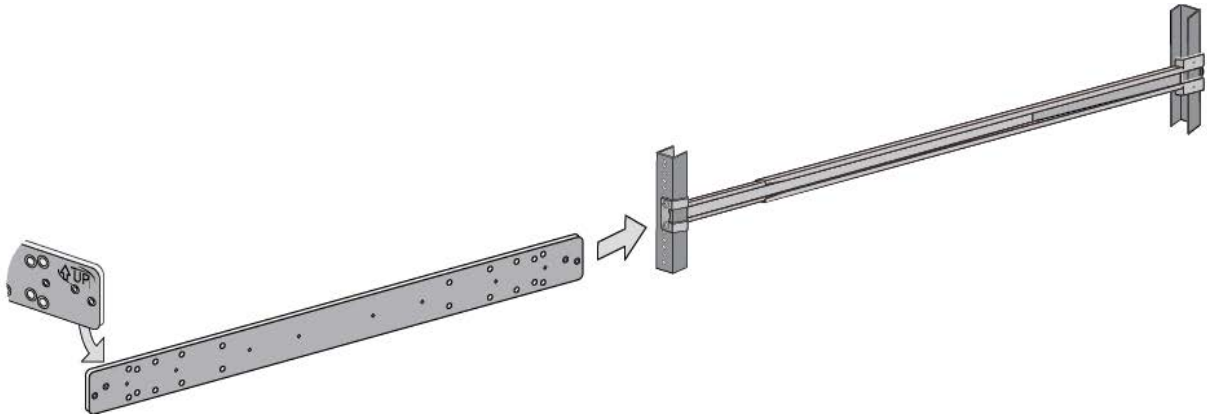

Figure 109. Inserting an Inner Rail into an Outer Rail
1. Slide one of the inner rails into an outer rail. Be sure that the UP arrow on the inner rail is pointing up. Refer to Figure 109 on page 185.